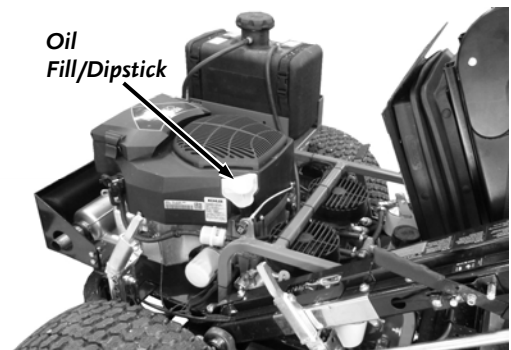

Figure 14
- With the machine on a level surface, initially add 32 oz. of SAE 30 High Detergent oil (recommended by the Engine Manufacturer) into the Oil Fill (Figure 14) and wait one minute for the oil to settle.
- Lift the Driver's Seat to locate the Hydraulic Fluid Tank (Figure 14).